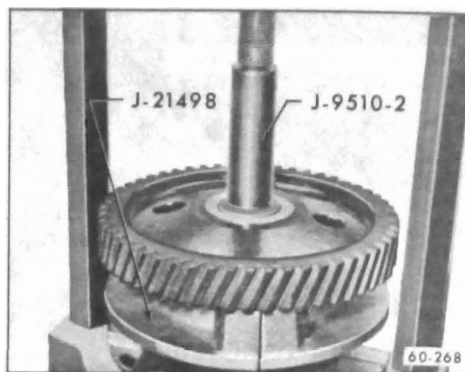

Figure 60-130 - Removing Camshaft Gear
1. If the inspection indicates that the shaft, gear or thrust plate should be replaced, the gear should be removed from the shaft. Refer to Figure 60-130 for gear removal.